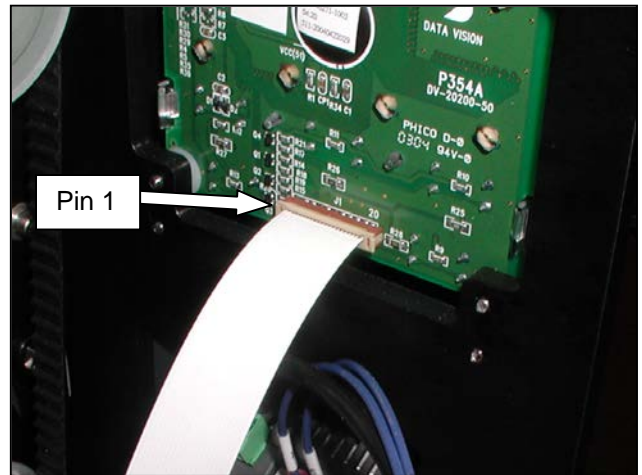

Figure 3-131. White Ribbon Cable Position 1
5. Insert one side of the replacement cable in Position 1 with exposed metal contacts facing up and lock down (Figure 3-131).